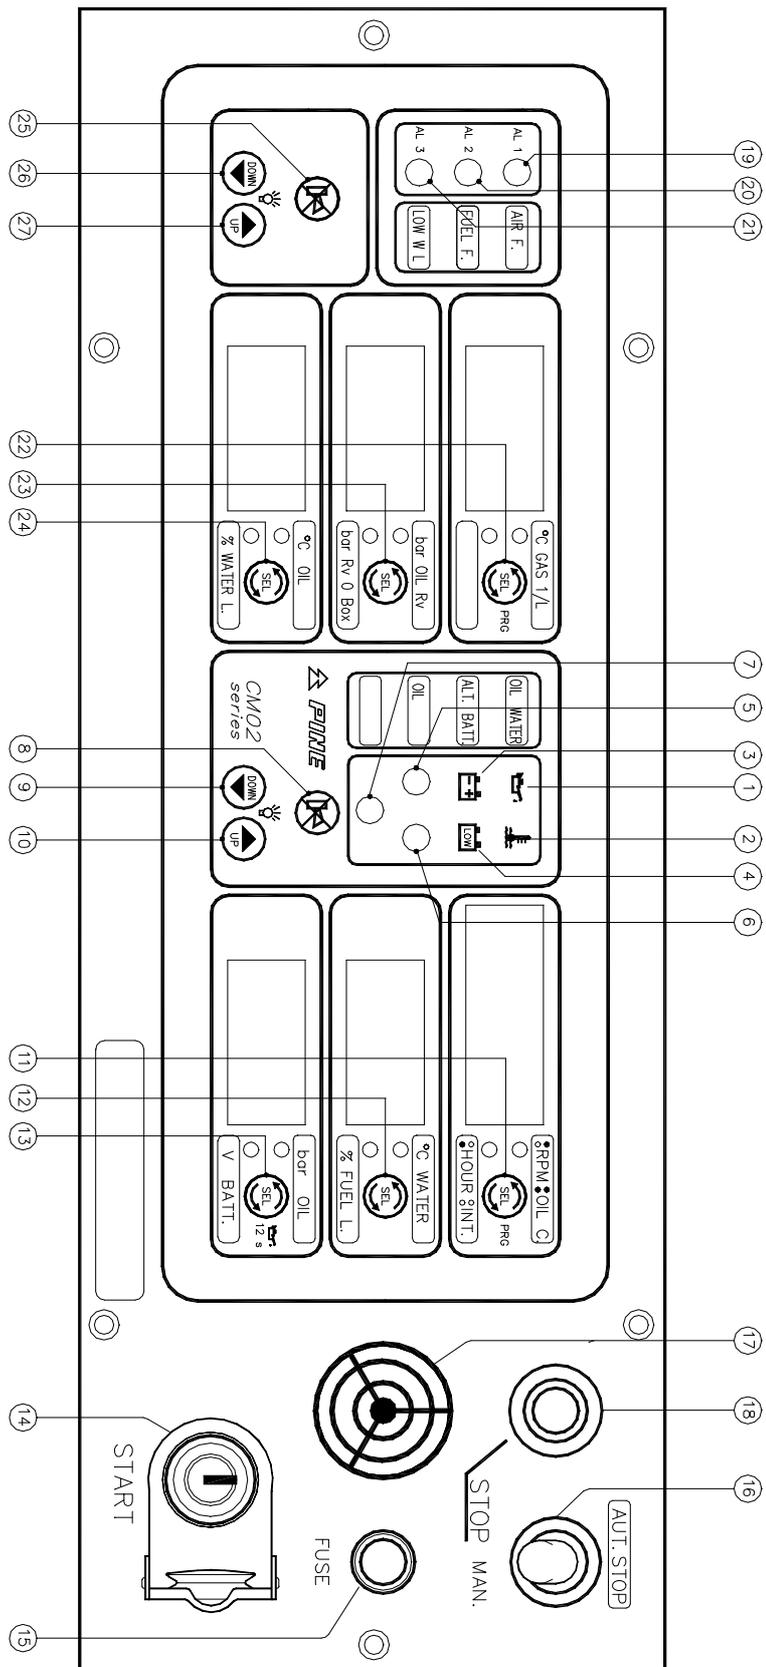

Fig. 1 - CM02
**8. ALARMS, SIGNALS AND COMMANDS** (Fig.1: CM02)**RIGHT PANEL**